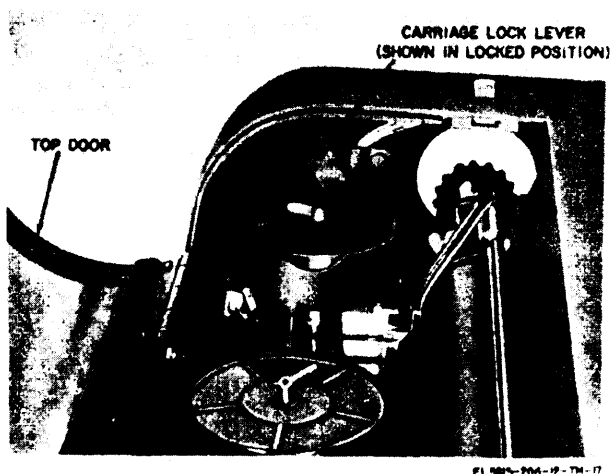

Figure 2-4. Carriage lock (TT-537/G)
e. *Carriage Lock* (TT-537/G) (fig. 2-4). The carriage lock is used to lock the type bar carriage in the extreme left-hand position during transportation. To unfasten the carriage lock, open the access window and reach under the left side of the access opening to disengage the carriage lock. Push the carriage lock lever of the rear to unlock the carriage. Close the access window.